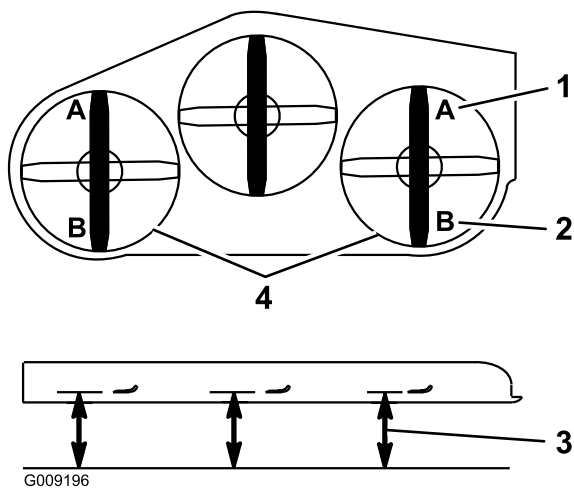

Figure 97
9. On both sides of the deck, measure from the level surface to the front tip of the blade (Position A) as shown in Figure 97.
15. On both sides of the deck, measure from the level surface to the back tip of the blade (position B) as shown in Figure 97.